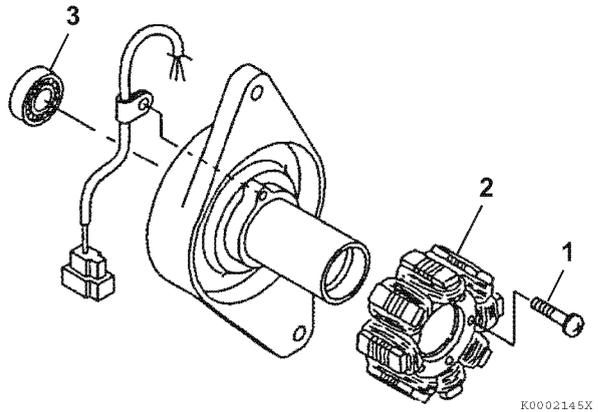

Figure 12-28
4. Remove the screws (1, **Figure 12-28**) and the stator assembly (2, **Figure 12-28**).
5. Remove the rear bearing (3, **Figure 12-28**).